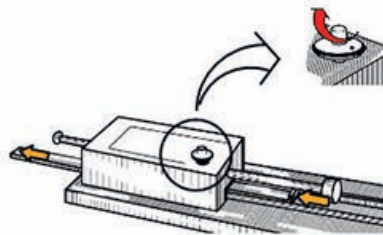

Fig.1
1. Position the Speed adjuster to any of the three settings to set the launcher power (see Fig.1).
2. Turn the knob into the upper position, into mechanical force adjustment (see Fig.1).